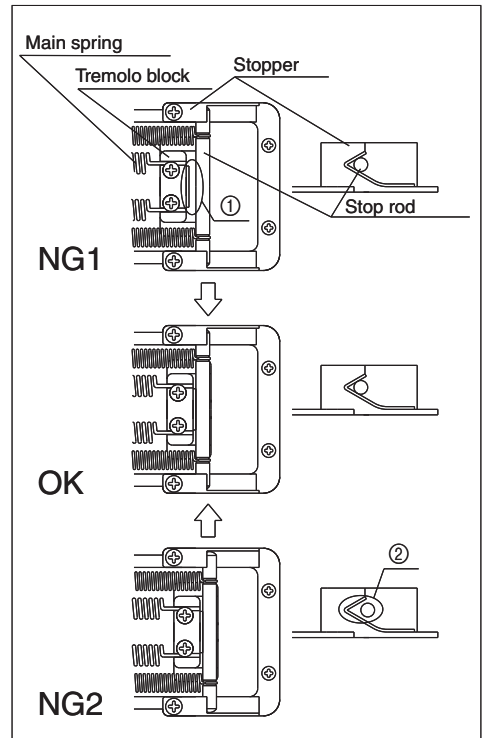

Fig. 40
In correctly tuned conditions, confirm that the stop rod is touching the tremolo block and stopper (Fig. 40 OK).
If the stop rod is not touching the tremolo block (Fig. 40 NG1-①), turn the main spring adjustment knob counterclockwise and loosen the main spring.
If the stop rod is not touching the stopper (Fig. 40 NG2-②), turn the main spring adjustment knob clockwise and tighten the main spring.